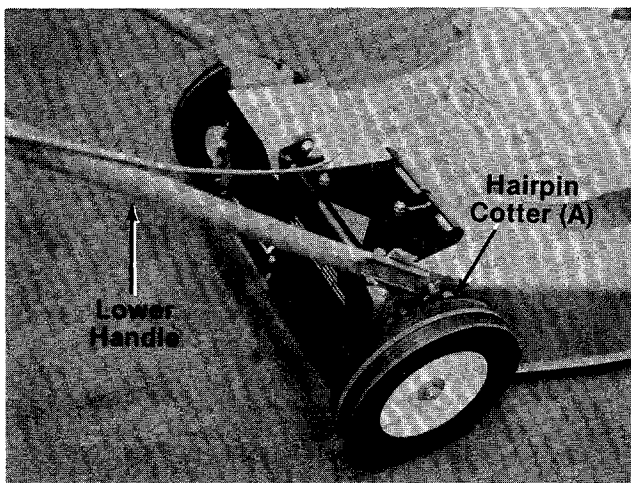

FIGURE 3.
- F (1) Hex Center Lock Nut 1/4-20 Thd.
- G (2) Cable Ties
- H (1) Ferrule Locking Ring
- I (7) Truss Head Bolts 3/8" Long
- J (7) External Lock Washers
- ← K (7) Hex Nuts #10-24 Thread
- L (2) Cotter Pins
- M (2) Tubing Connectors
3. Fasten lower handle in position over weld pins in handle mount brackets on deck. The hole for the engagement rod in the lower handle must be on the **left** side of the unit. Secure with hairpin cotter (A) in inner hole on weld pin. See figure 3.